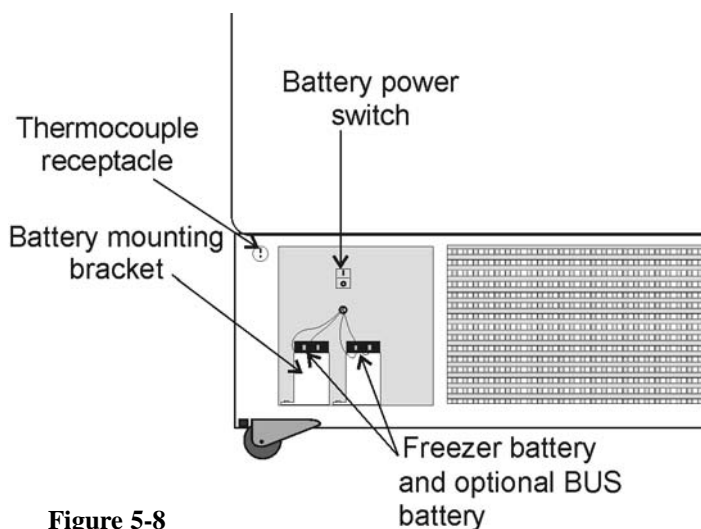

Figure 5-8
3. Turn off the battery switch (see figure 5-8).